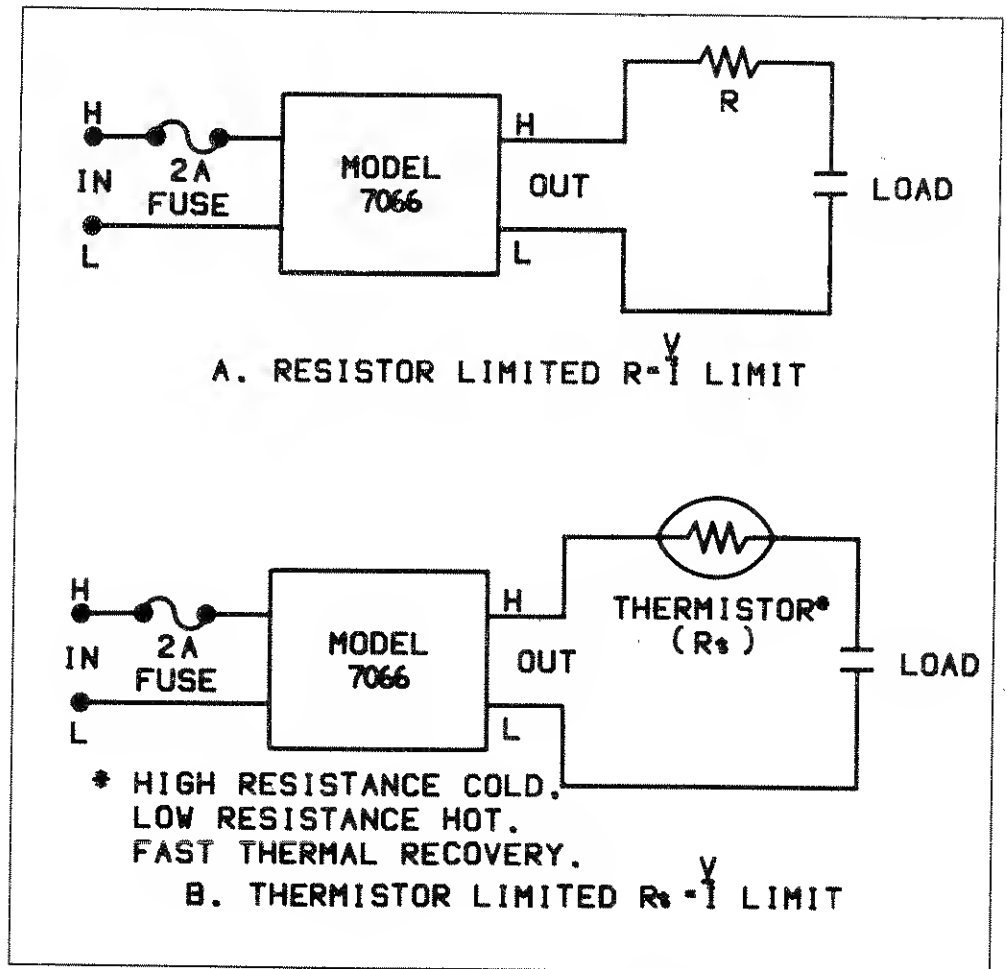

Figure 2-9. Limiting Capacitive Reaction Current
- B. Capacitive Loads—The initial surge current from a capacitive reactive load must be limited. Figure 2-9 shows circuits that can be used to limit current surges. To protect the relay, limit current to 2A. Also consider the load when determining the current surge limit.